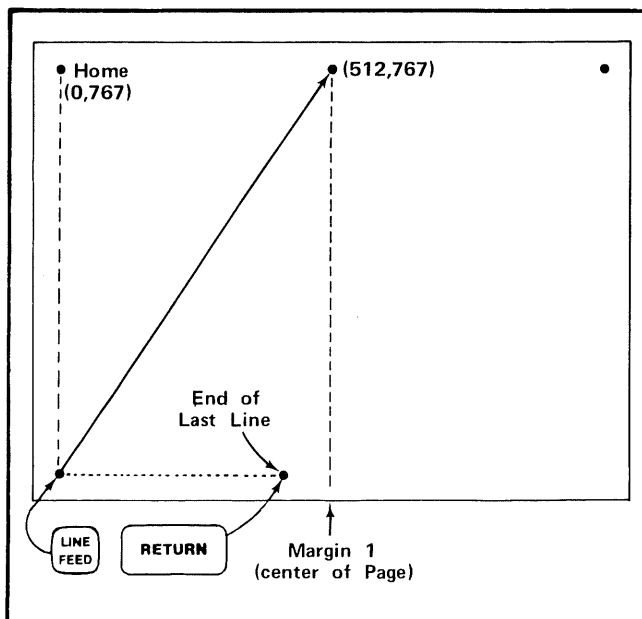

Fig. 2-5. Steps which set up Margin 1 (center of the Page).
Step 16. Center of the page margin called "Margin 1" can be used as a left hand margin. See Fig. 2-5. Margin 1 is automatically set at the end of the 35th line of text when followed by a LINE FEED and RETURN (carriage return). The advantage of using Margin 1 is that you can get two columns of copy; however, if any first column lines extend over one half page they will be covered by the second column.